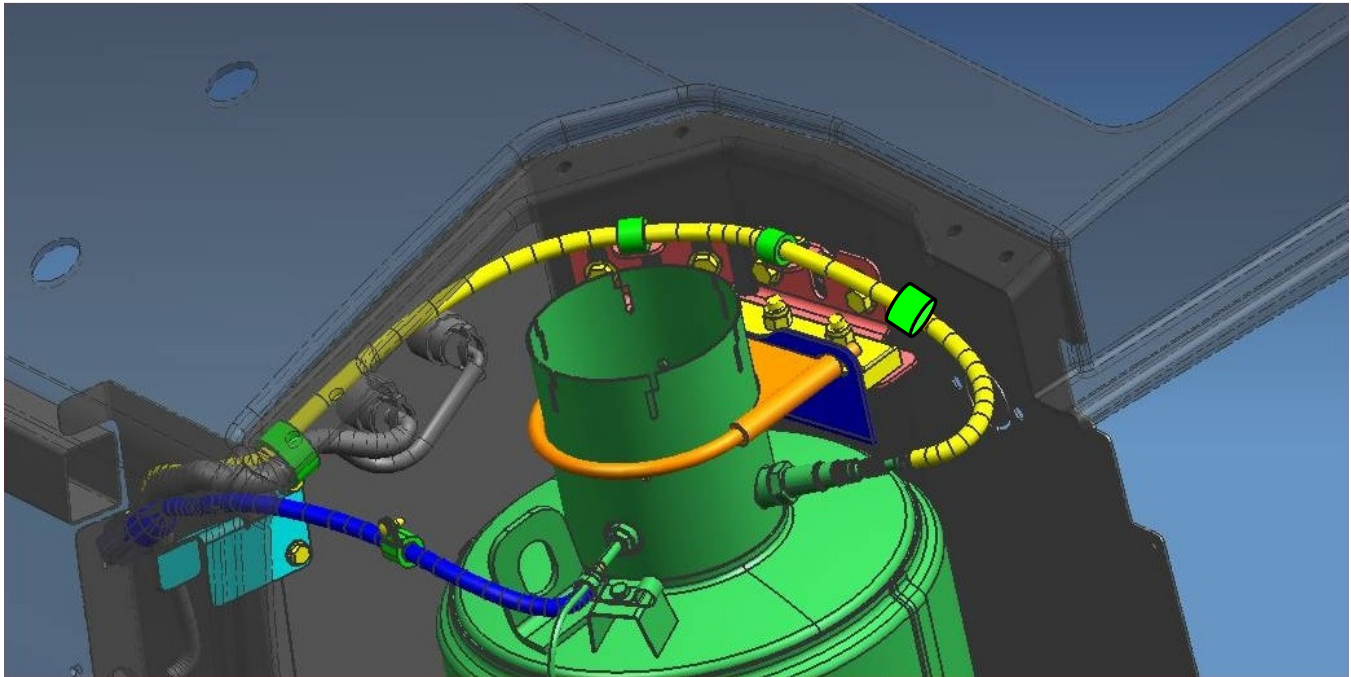

Figure 4: Final assembly of harness.
5. Secure harness assembly and tighten all clamps. Refer to figure 4 and 5.